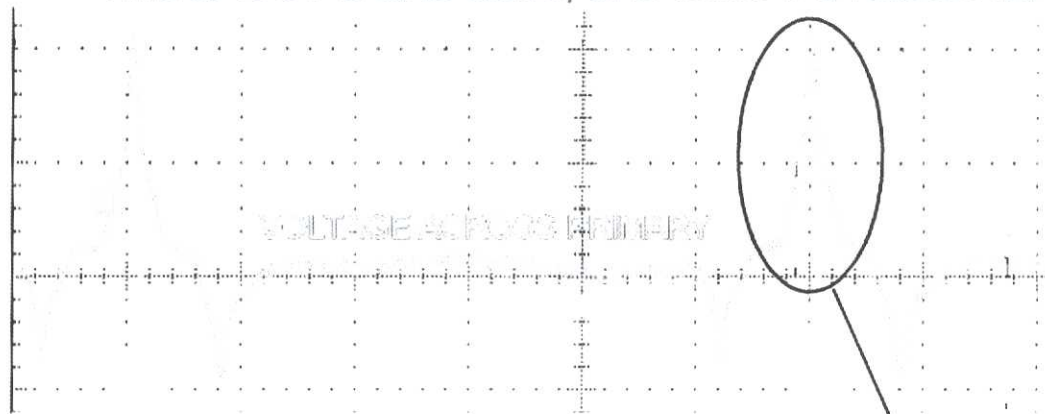

Figure 3-2
tremely narrow; the positive pulses we want to use only exist about 10% of the time. (See figure 3-2 for details. Compare the output voltage waveform you get from a bicycle generator to what is generated by a magneto. The magneto's output voltage waveform looks very odd, but there are good reasons for this!)
2) The magneto only uses the positive voltage pulses to create spark. The negative output pulses are not used (or worse, they can interfere with the positive voltage that we do want to use, so negative voltage output must be minimized if possible). Refer to figure 3-2 to see which portion of the magneto's output voltage is actually used to create the spark. (Key point: this picture of the AC voltage created by the magneto is with the magneto's generator not connected to any load. You can see this if you disconnect the points and measure the AC voltage with no load. When the points are functioning, you will not be able to see this voltage across the
Compare the final voltage waveform in figure 3-12 with the actual voltage waveform from a magneto, shown at the bottom of figure 3-2. Look familiar? It should!